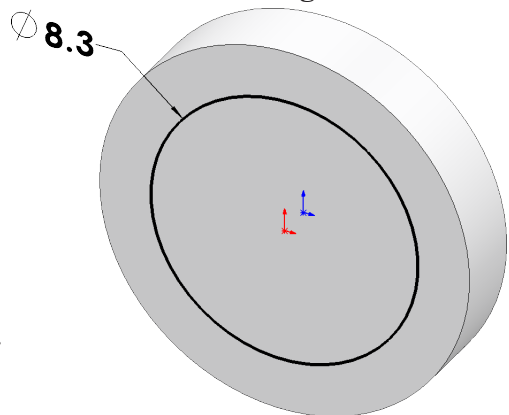

Fig. 6
Step 2. Click **Circle**  (S) on the Sketch toolbar.
Step 3. Sketch **circle at Origin** , **Fig. 6**.
Step 4. Click **Smart Dimension**  (S) on the Sketch toolbar.
Step 5. Dimension **diameter 8.3**, **Fig. 6**.